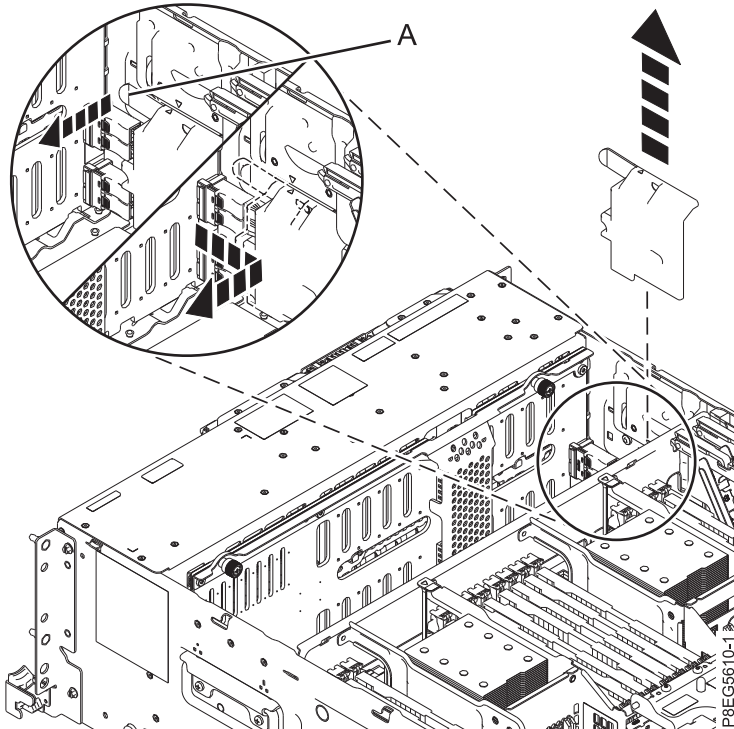

Figure 13. Removing the SAS cables cover
3. Remove the cover from the front SAS cable. Grasp the handle (A) and pull away from the side of the system, then slide the cover toward the rear to remove it as shown in Figure 13 on page 16.